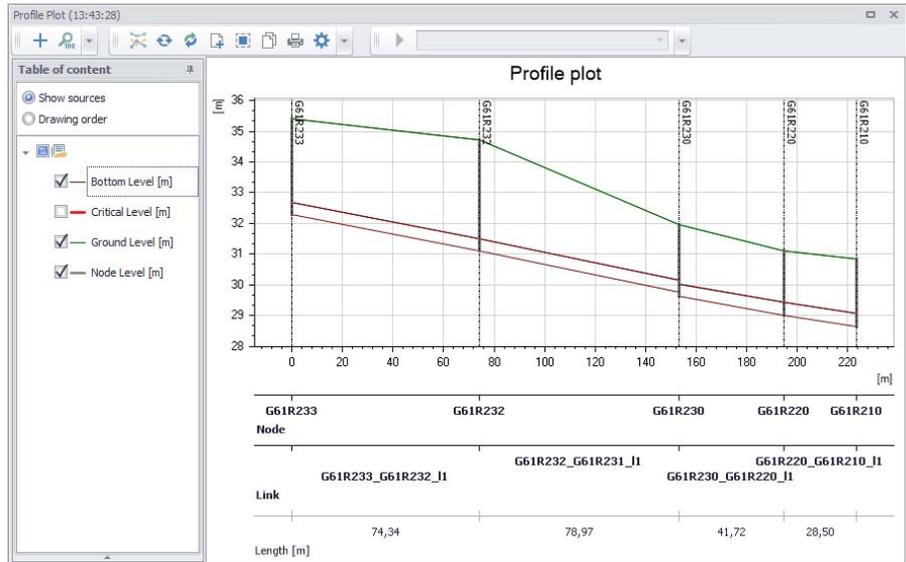

Figure 19.33 The Profile Plot form window showing an example longitudinal profile plot without simulation results
- Finally, click on 'Profile manager' on the Profile and Tracing toolbox. This will create a new profile plot (Figure 19.33).